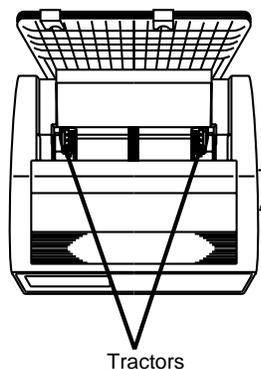

Figure 9-4. Model 602 Paper Tractors
4. Locate the tractors as shown in Figure 9-4.